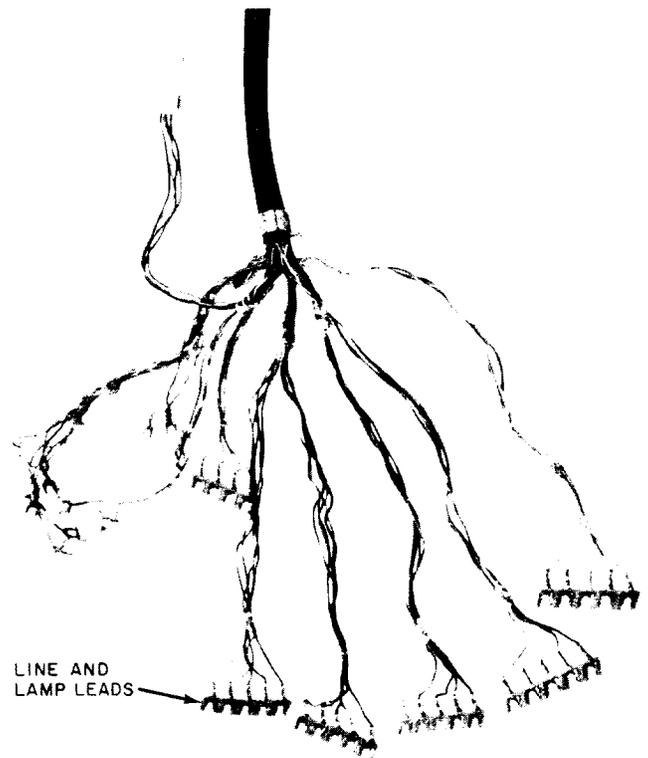

Fig. 11—Mounting Cord Used With 636A Key
3.08 Still later manufactured cords, designed for use with 636-type key assemblies, feature slotted wafer sections for each line appearance (Fig. 11). This allows easy arrangement of lines to pickup buttons.